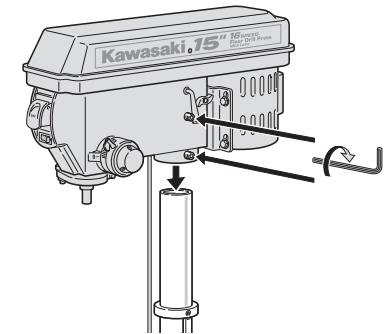

FIGURE 7. INSTALLING THE HEAD ASSEMBLY
4. Align the head assembly with the work-table and base. See Figure 7.
5. Locate the (2) two 10 mm X 12mm set screws in the loose parts bag.